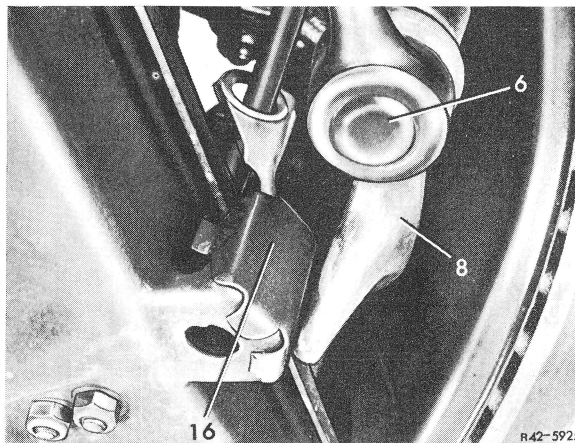

Fig. 10
**22** Turn steering completely to the left and right while checking whether steering knuckle arm (8) rests each time against stop (16) of lower control arm (Fig. 10).